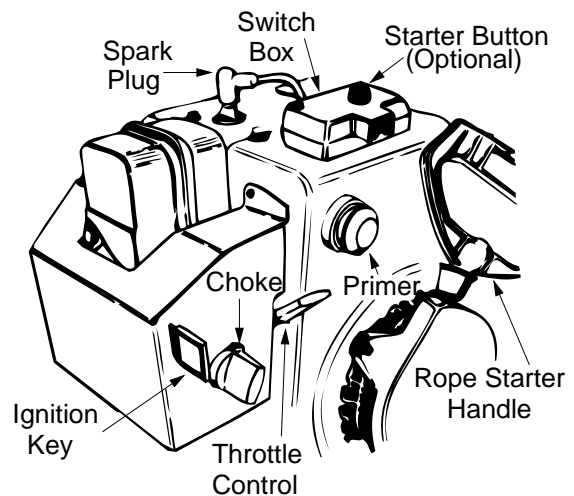

Figure 20
4. Move throttle control up to FAST position. Insert ignition key into slot. See Figure 20. Be certain it snaps into place. Do not turn key
3. Push starter button to crank engine. See Figure 20. As you crank the engine, move choke knob to FULL choke position.
3. Push primer button two or three times for cold engine start. See Figure 20.
5. Grasp starter handle (see Figure 20) and pull rope out slowly, until it pulls slightly harder. Let rope rewind slowly.